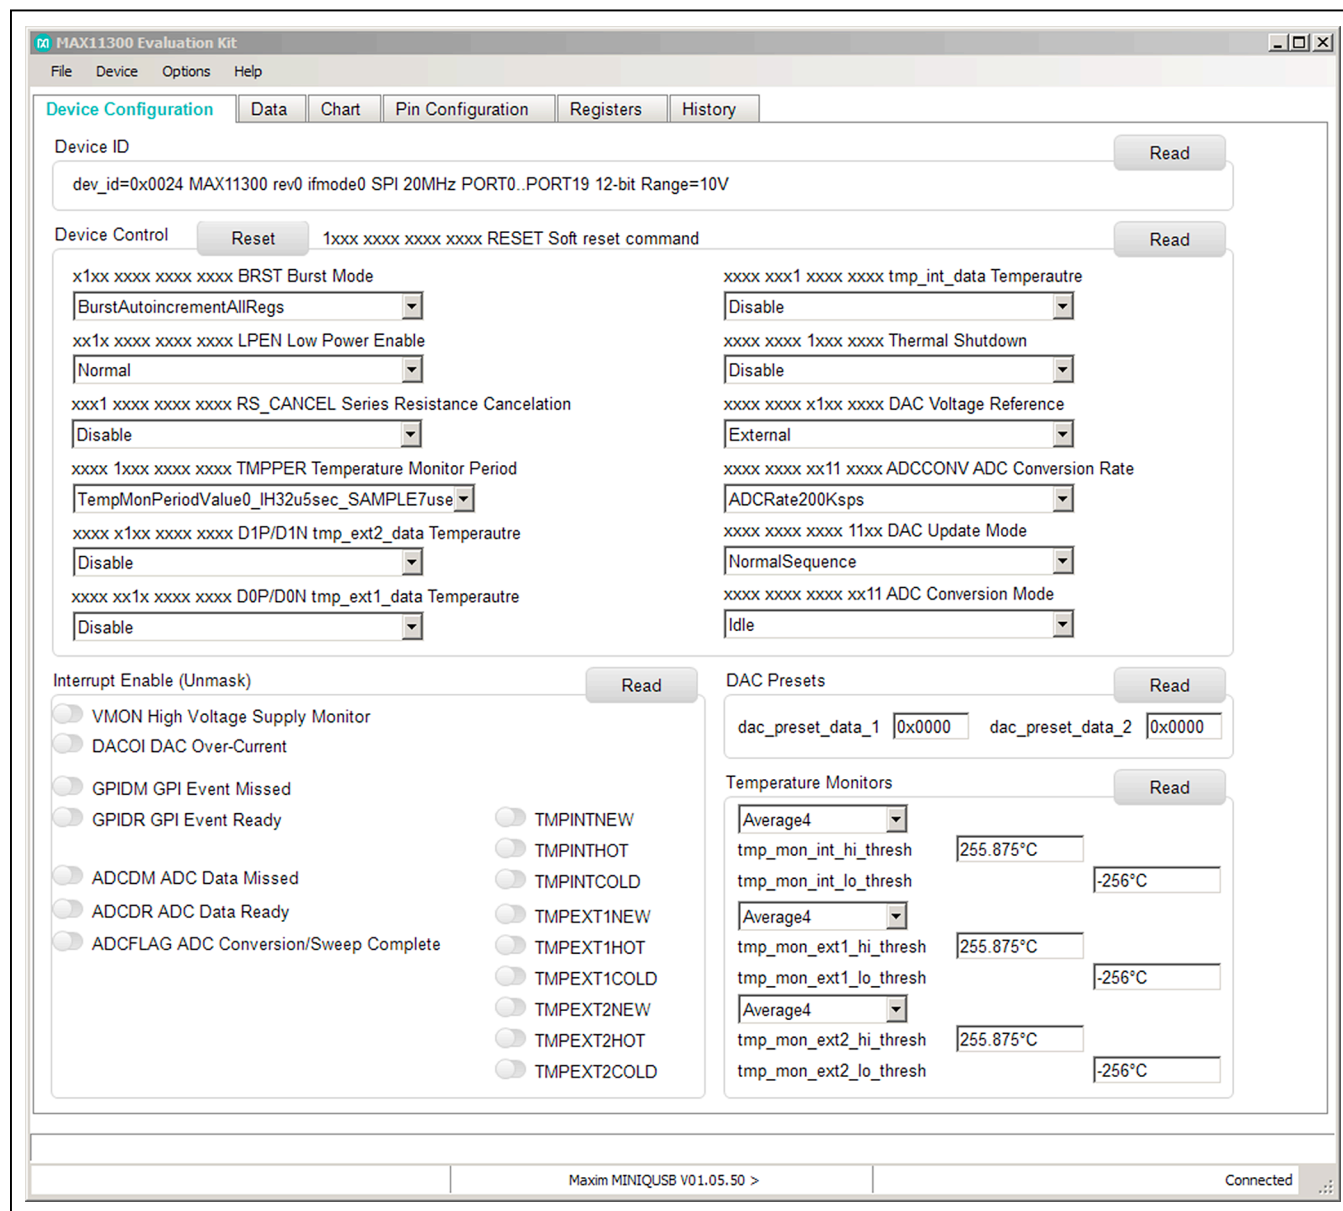

Figure 2. Device Configuration Tab
- 11) Start the EV kit software by opening its icon in the Windows **Start | Programs** menu. The EV kit software main window appears, as shown in Figure 2.
The **Device Configuration** tab (Figure 2) accesses the global device control registers, interrupt sources,